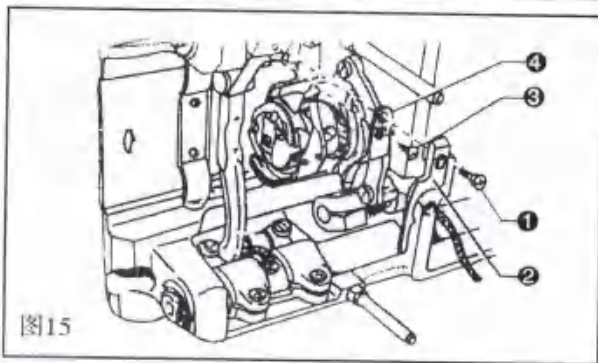
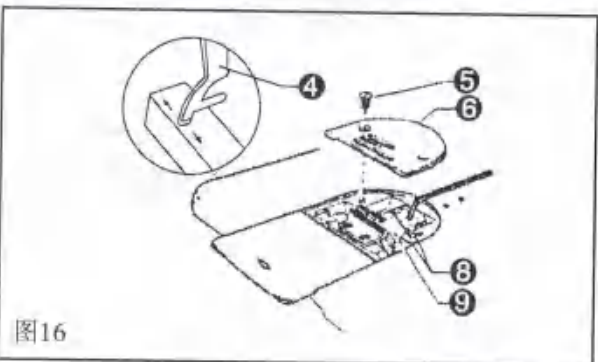

图15
图16
## 13.1. 定刀和动刀的更换 (图15、图16、图17.1 (旋刀) REPLACE THE COUNTER KNIFE AND MOVING KNIFE (FIG15, FIG16, FIG17.1)
2. 取下紧固螺钉①和旋梭定位勾②
3. 拆下沉头螺钉③和定刀④
\*切线不良时请磨定刀④ (如图16)
2). Take down the screw ① and positioning finger ②
3). Take down the screw ③ and counter knife ④ (Fig.16)